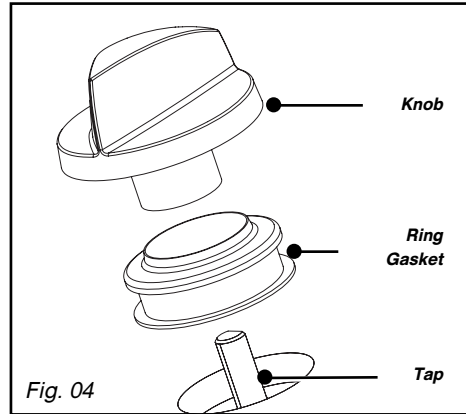

Fig. 04
- **Adjust the hob connections:** they are located underneath the knobs (*Fig. 04*).